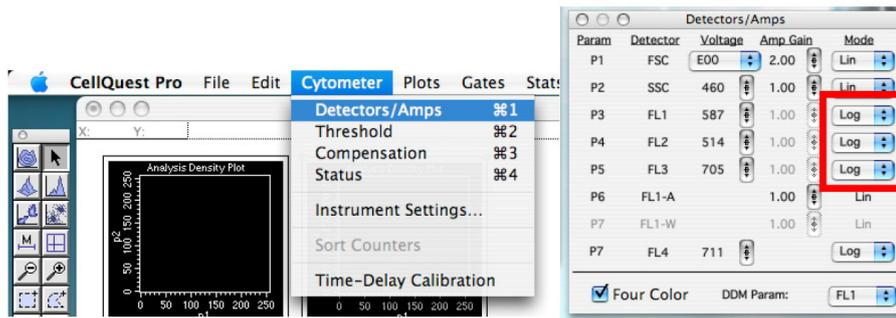

Figure 5. Showing the detector controls. Change the scale type and adjust voltage of detectors.
10. In the 'Cytometer' tab, click on 'Detector/Amps'. Change the fluorescent one to 'Log' mode (Figure 5).